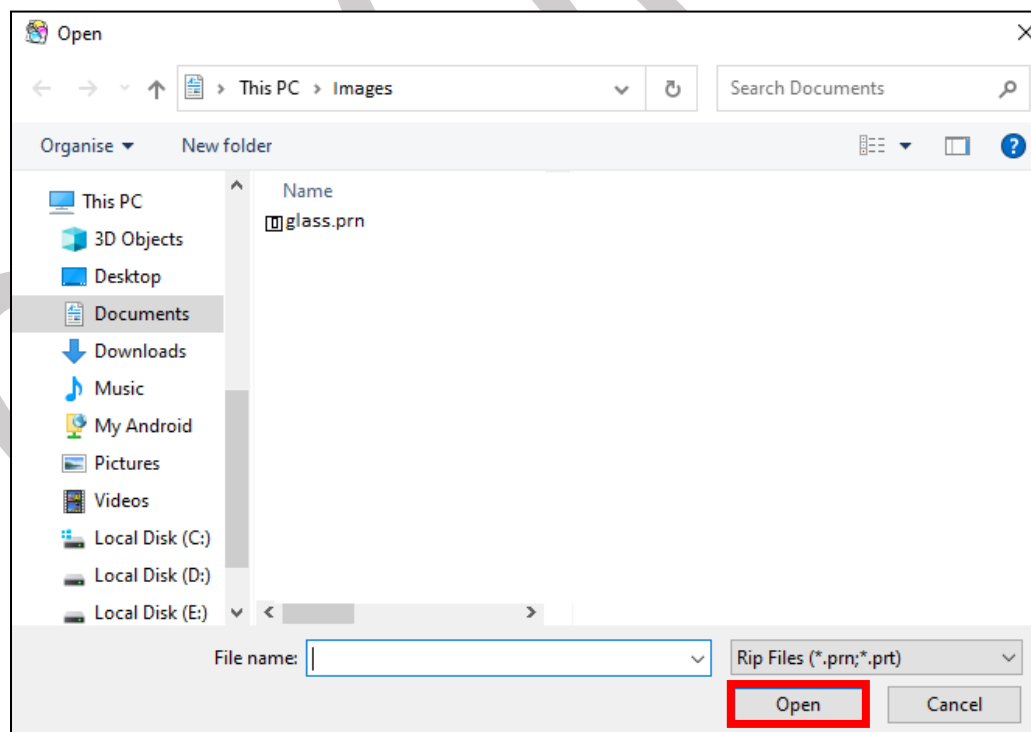

Fig 37: Adding the Job
Step 2: Navigate to the location where the image file with extension “.prt” and “.prn” is stored (Refer to Fig 37).